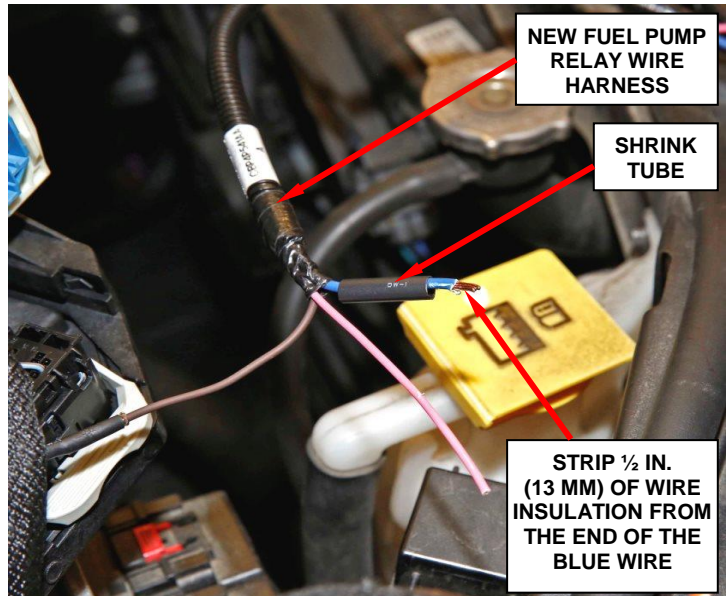

Figure 22 – Strip Wire and Install Shrink Tube
- a. Strip approximately ½ inch (13 mm) of insulation from the end of the blue wire on the new fuel pump relay wire and the original blue (with an orange trace) wire (Figure 22).
- b. Place the black shrink tube provided in the repair kit over the cut wire (Figure 22).